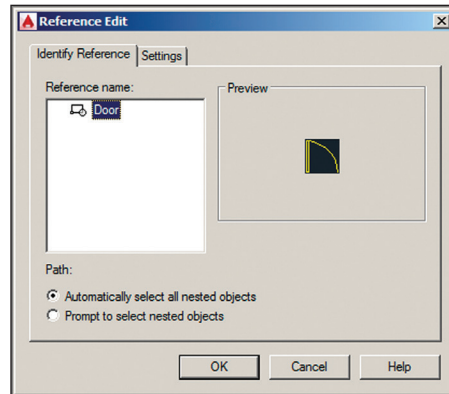

FIGURE 7.15 Editing a block reference in place
2. Select the door, right-click, and choose Edit Block In-Place from the context menu. Click OK in the Reference Edit dialog box that appears (see Figure 7.15).